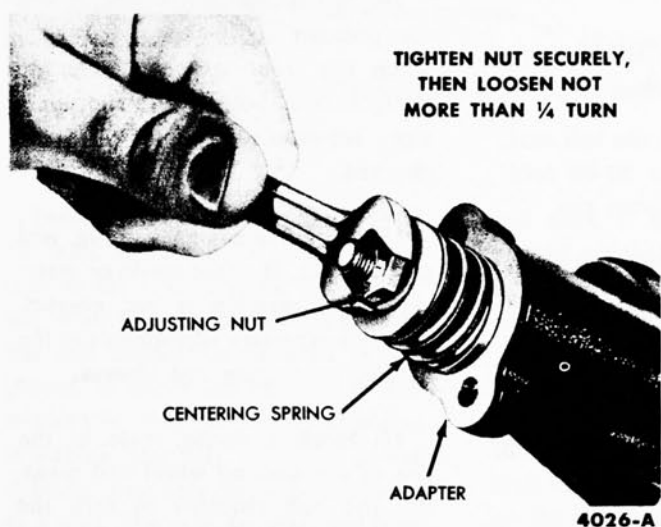

FIG. 16—Centering Spring Adjustment
14. Compress the centering spring, and install the nut on the bolt. After tightening the nut securely, loosen it not more than $\frac{1}{4}$ turn (Fig. 16). Ex-